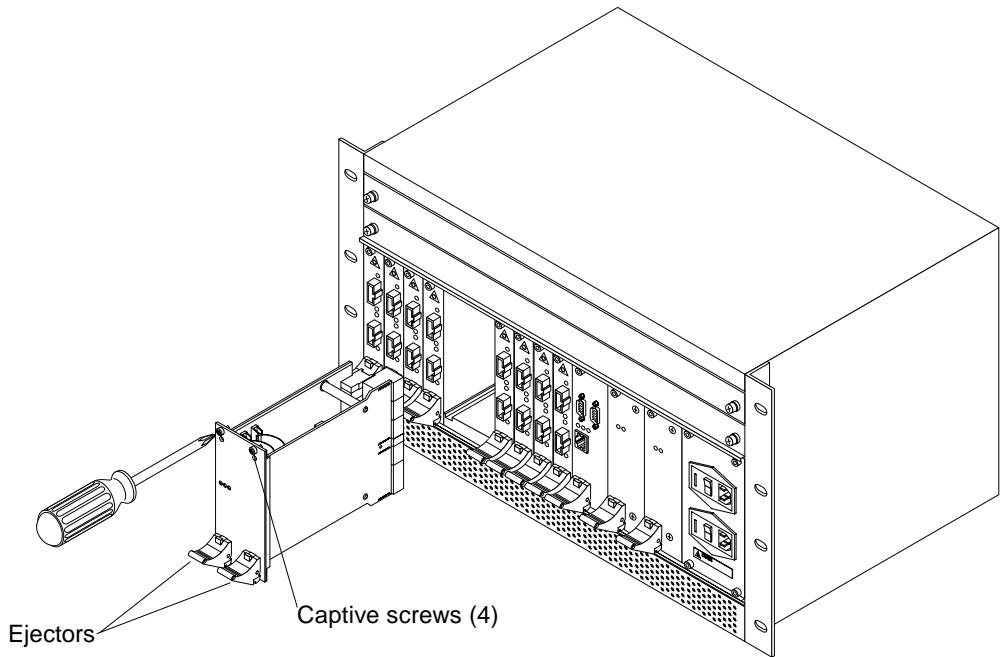

FIGURE 4-4 Replacing a Switch ASIC Module
- 4. Loosen the four captive screws, two each on the top and bottom of the module (FIGURE 4-4).**
6. Tighten the four captive screws, two each on the top and bottom of the module (FIGURE 4-4) to seat the module into the backplane connector.